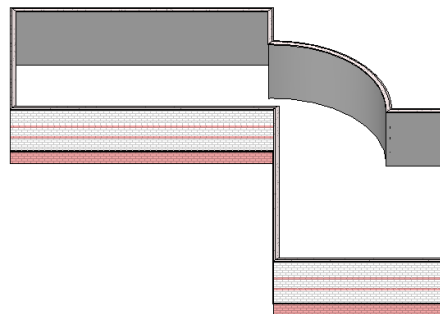

Figure 3-53 3D view of the completed exterior wall profile
4. Choose the **Default 3D View** tool from **View > Create > 3D View** drop-down; a 3D view of the building model is displayed, as shown in Figure 3-53.